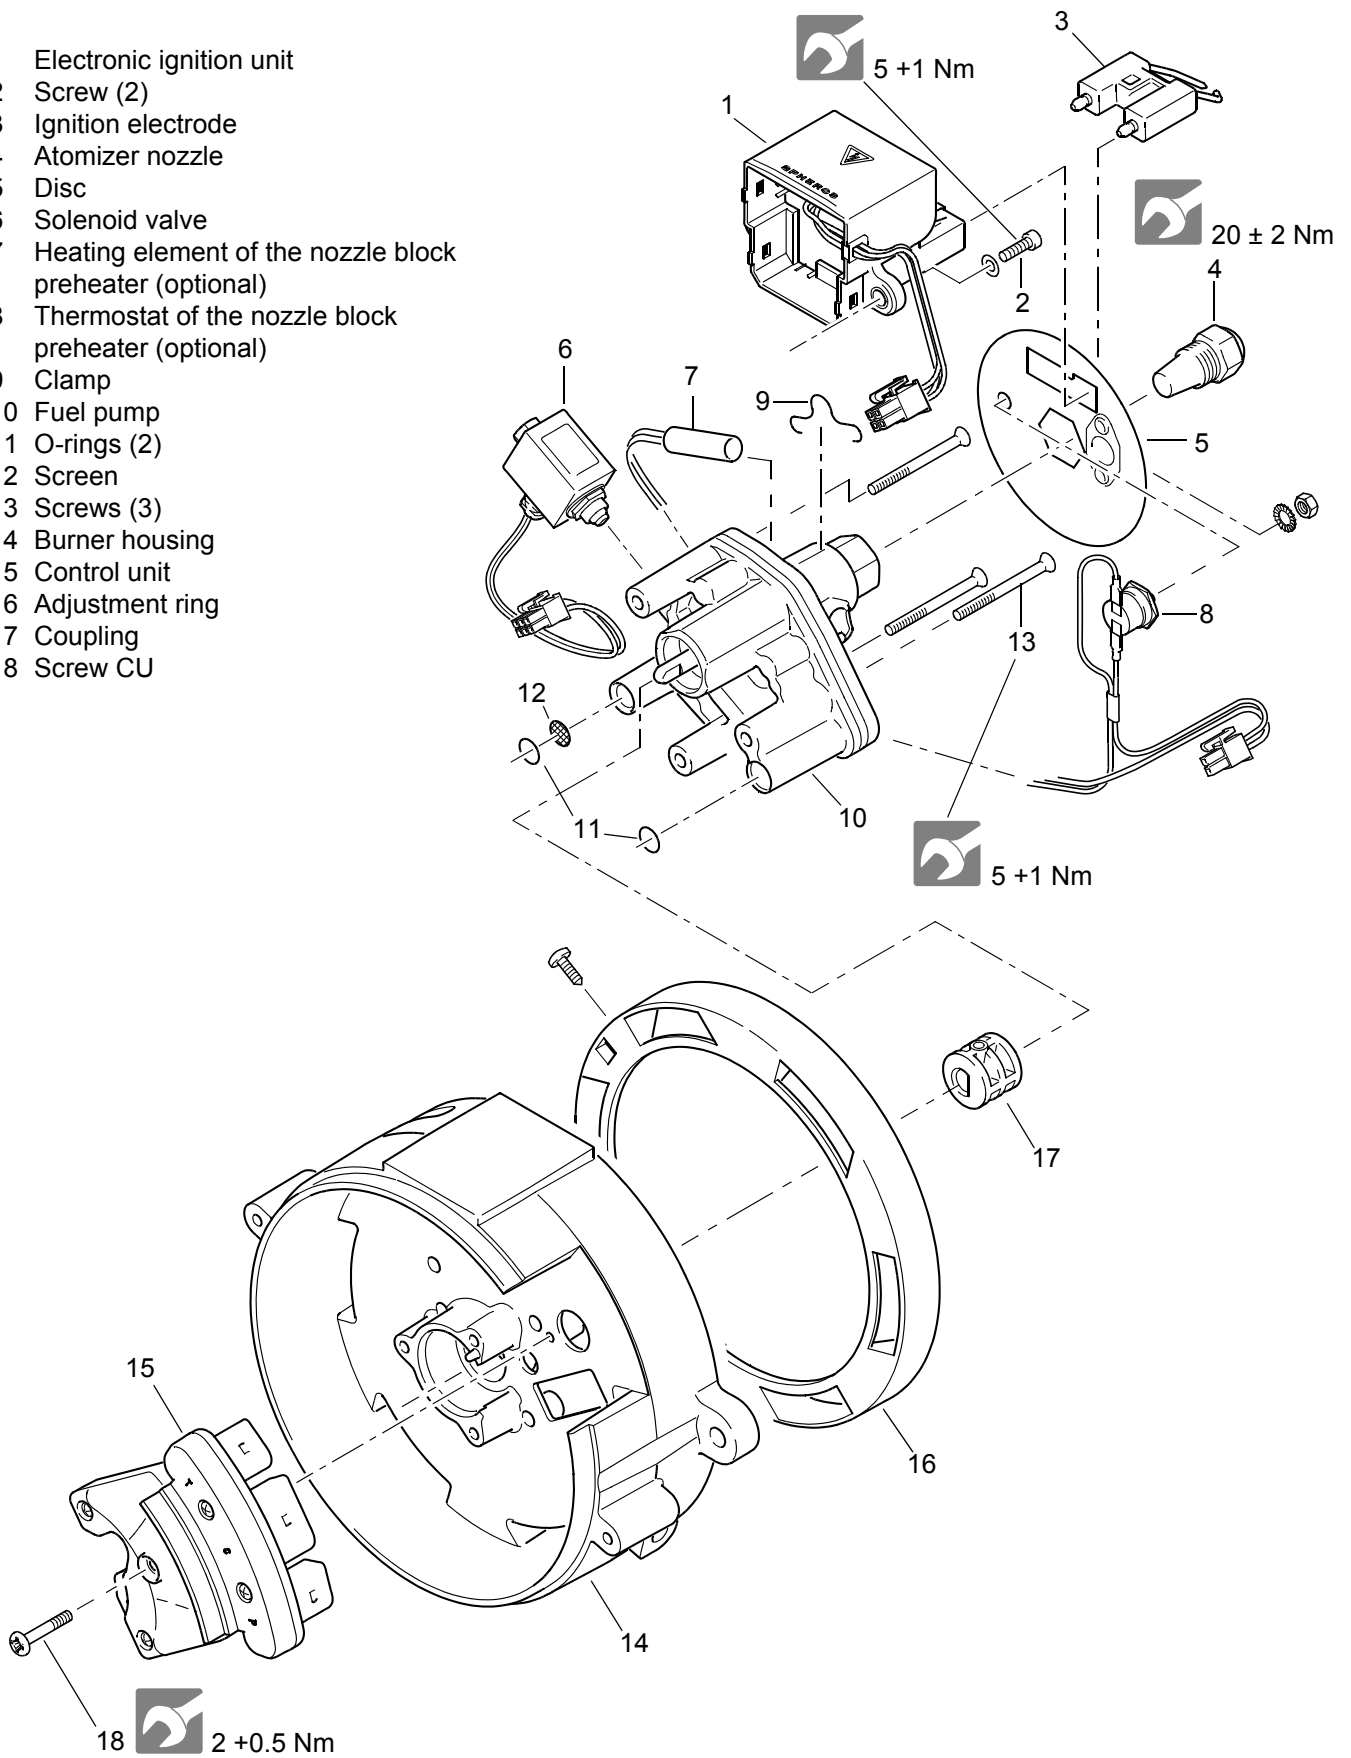
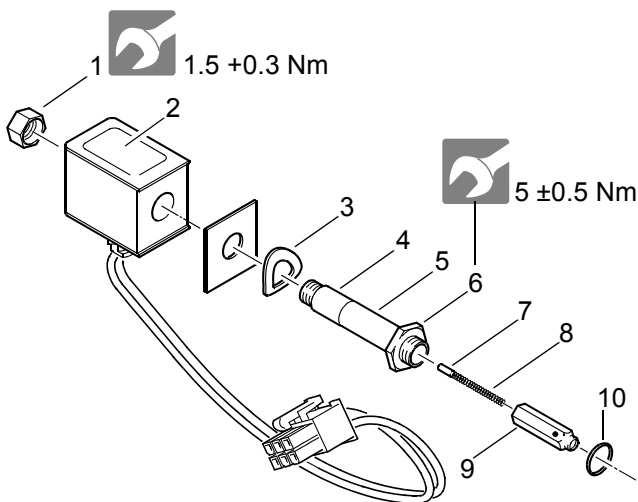

Fig. 805 Components removal and installation
Fig. 806 Solenoid valve
2. Fit disc (5) onto the nozzle holder of the fuel pump (10, Fig. 805) and align with the flame detector in the control unit (15) and the electronic ignition unit.
2. Screw in and tighten control unit attaching screw (18, Fig. 805).
3. Remove disc (3).
4. Disconnect the solenoid valve plug (6, Fig. 805) and the optional nozzle block preheater (7) from the control unit (15).
5. Remove screws (13).
6. Pull fuel pump (10) with solenoid valve (6) off and remove it.
7. If applicable, remove the nozzle block preheater (7). For this purpose, remove clamp (9) from the nozzle holder using suitable tools.
8. If necessary, remove the solenoid valve (6) from the fuel pump (10) (see 8.9).
1. If necessary, attach solenoid valve (6, Fig. 805) to the fuel pump (10) (see 8.9).
2. If applicable, install nozzle block preheater (7) and secure with clamp (9) to the nozzle holder using suitable tools.
3. Remove disc (5, Fig. 805).
4. Disconnect the solenoid valve plug (6) from control unit (15).
5. Using suitable tools loosen the hexagon, wrench size 16 (6, Fig. 806) of the solenoid valve (6, Fig. 805) from the fuel pump (10) and unscrew the solenoid valve (6).
1. The gasket ring (10, Fig. 806) towards the fuel pump must be replaced. Make sure stay, spring and lifter are correctly assembled, observe installation position (see Fig. 806).
2. Attach solenoid valve (6, Fig. 805) to the fuel pump (10).
3. Using suitable tools, tighten hexagon, wrench size 16 (6, Fig. 806) of the solenoid valve.
4. Connect the solenoid valve plug (6, Fig. 805) to the control unit (15).
5. Fit disc (5) onto the nozzle holder and align with the flame detector in the control unit (15) and the electronic ignition unit (1).
6. Fit ignition electrode (3).
If the nut, wrench size 12 (1, Fig. 806) was loosened, then it must be tightened with a tightening torque (see Fig. 806) and subsequently secured using locking paint.
1. Screw in the atomizer nozzle (4, Fig. 805) and tighten. If no nozzle wrench is used, a tool must be used to counter on the hexagon of the fuel pump nozzle holder (10).